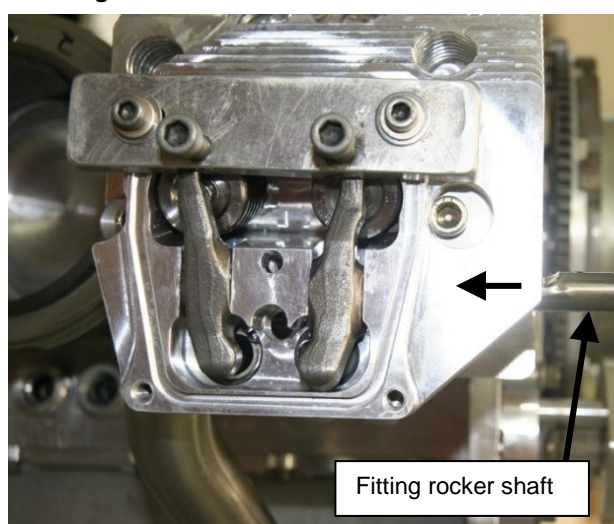

Figure 181 – Fitting Rockers #2
13. Fit the valve rockers, taking care that the pushrod is correctly seated into the sockets in the lifter and in the rocker. The rockers and the rocker shaft must be lubricated well with Nulon L90 or oil as shown in Figure 181 and then driven in using a suitable punch and a soft hammer. The shaft is punched in with the rounded end leading.
15. Tighten the cylinder head screws (6) to 15 lb.ft and then to the value specified in Table 9 using a standard diagonal tensioning pattern.